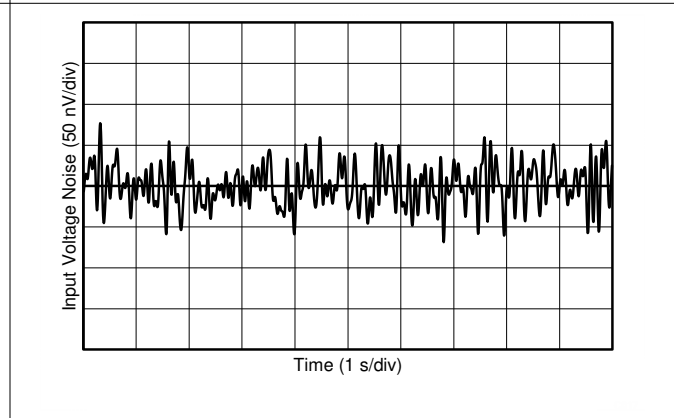

Figure 5-16. 0.1Hz to 10Hz Noise
0.1Hz to 10Hz Noise	<a href="#">Figure 5-16</a>